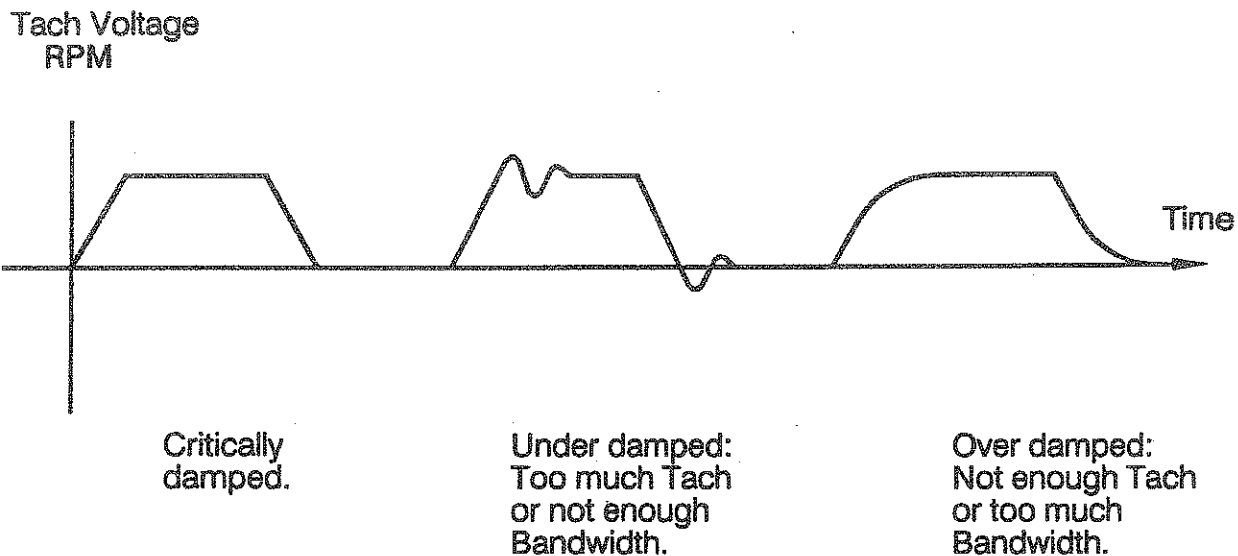

Figure 3.1
6. Pulse the input and compare the waveform with figure 3.1 (next page).